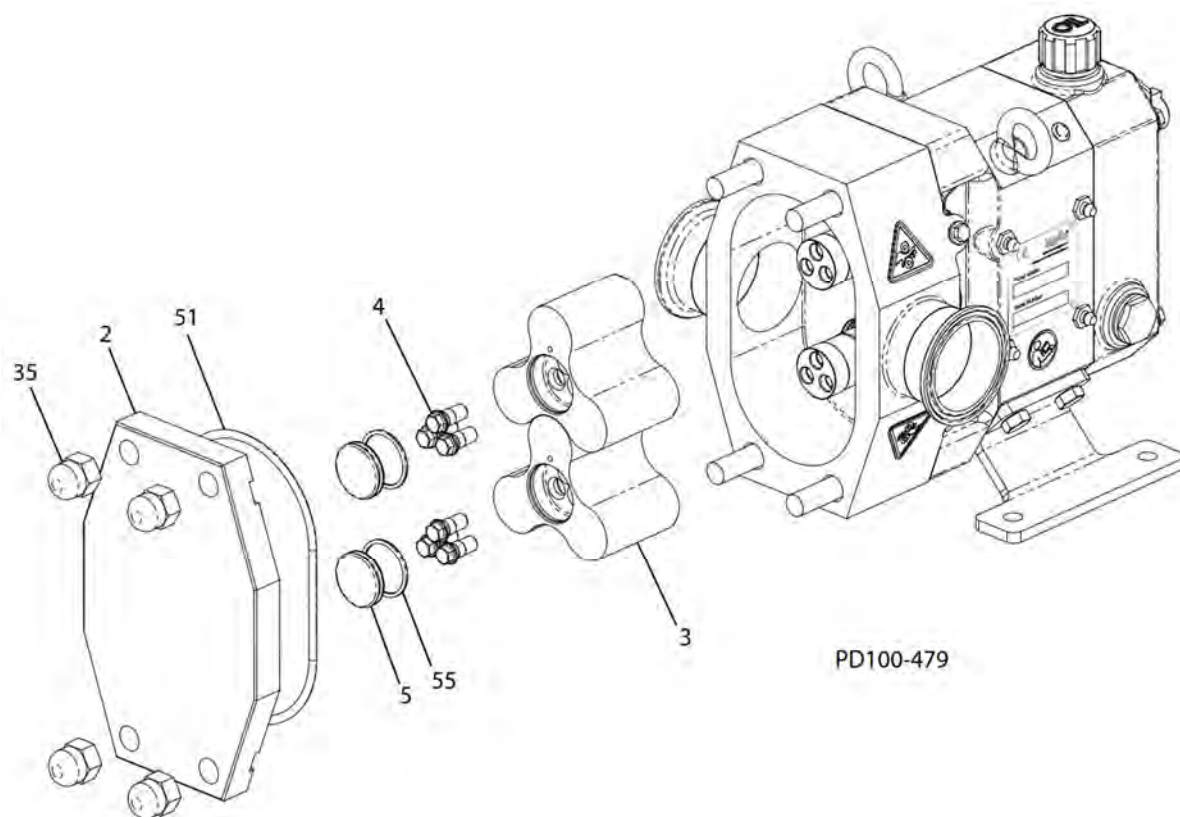

Fig. 30: Pump Cover and Rotor Removal
Tab. 4: Callout table for figure 30
1. Remove the cover acorn nuts (Figure 30, item 35).
2. Remove the cover (item 2). Cavities are provided on the mounting surface of the cover to permit removing the cover with the aid of a screwdriver.
3. Remove and inspect the O-ring (item 51).
1. Remove the screw caps (Figure 30, item 5) from the rotors (item 3). Remove and inspect the O-rings (item 55).
2. Remove the rotor lug screws (item 4). To prevent the rotors from turning while loosening (or tightening) the rotor lug screws, block the rotors following the guidelines provided in the chapter 7.6.3.: "*Rotor Blocking*".
3. Remove the rotors (Figure 30, item 3). If the rotors cannot be removed by hand, use a twisting motion to break them free. If unsuccessful, tap the body forward using a mallet to loosen the rotors.